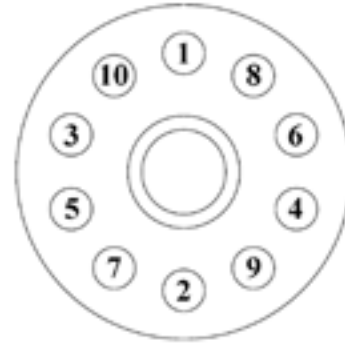

Figure 9
8. Tighten nuts to 50 ft-lb (67.8 N-m) following a crisscross sequence as shown in Figure 9.